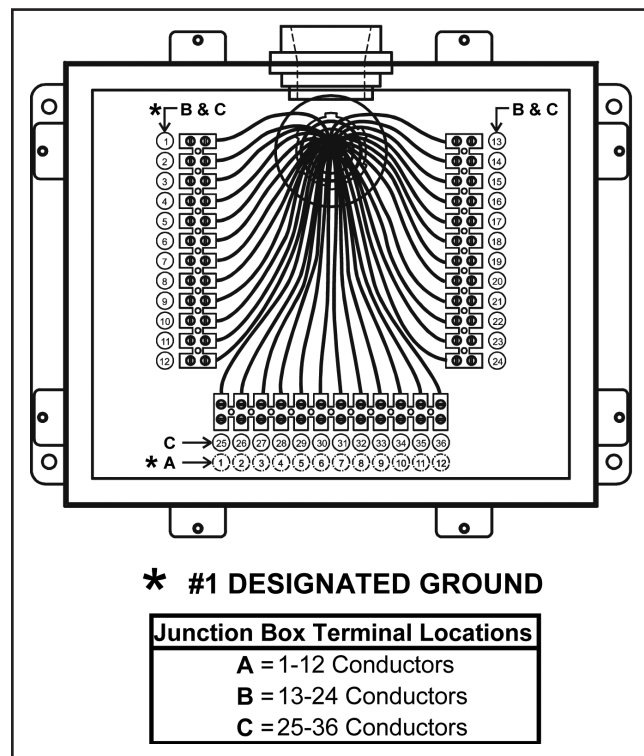

Figure 16-2
- Slip Ring conductors are wired to the inside of the terminals. See **Figure 16-2**.